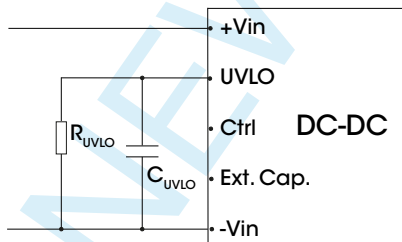

Figure 14. Recommended circuit for undervoltage-lockout adjustment
3. The UVLO pin can adjust the point of input under-voltage protection by the external resistance R_{UVLO} for the value of R_{UVLO}, please refer to Fig. 14. If the pin is open circuit, the point of input under-voltage protection is 11 V.
3. The resistance R_{UVLO} sets the undervoltage protection point, for the value of R_{UVLO} , please refer to Fig. 14.